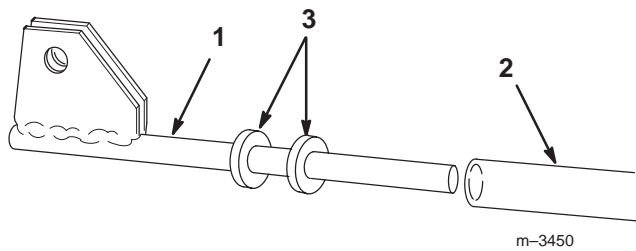

Figure 16
7. Add (2) 1" (25 mm) washers onto the end of the rod assembly, then slide it into the lift tube (Fig. 16).
IMPORTANT: The washers (Fig. 16) are used to adjust how low the snowthrower can drop below grade. If the snowthrower drops too low, the drive belt can lose tension and slip. Add washers, as needed, to prevent this problem.